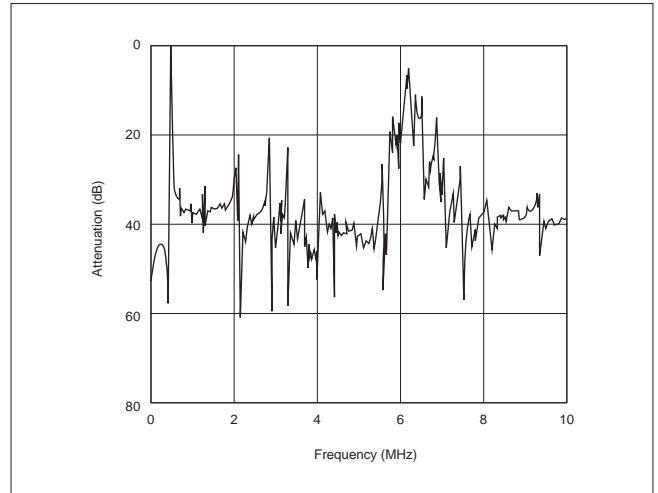
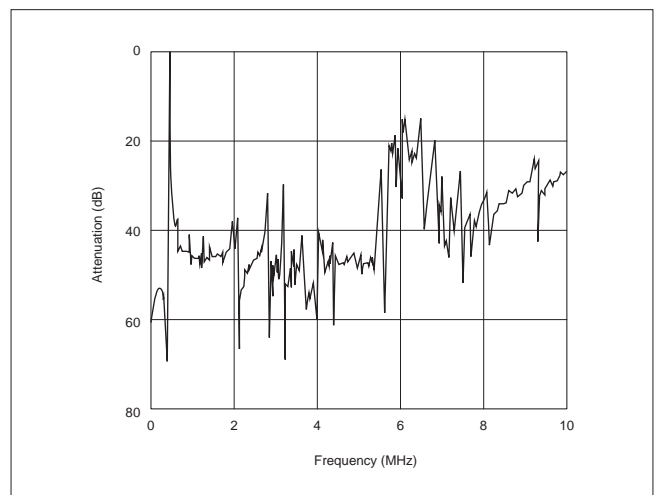

Fig. 8-2 Spurious Response with SFULA450KU2B-B0
Fig. 8-3 Spurious Response with SFULA450KU2B-B0+IFT
- (1) It is recommendable to use supplementary IFT together with CERAFIL® for suppression of spurious.
- (2) Arranging 2 or more CERAFIL® for mutual cancellation of spurious.
- (3) To provide low pass or high pass filter of the fixed LC for suppression of spurious.
Among the countermeasures itemized above, the most common approach is method (1). The spurious responses are shown in Fig. 8-2 with only SFULA450KU2B-B0 and Fig. 8-3 with SFULA450KU2B-B0 + IFT. This arrangement for suppression is enough.